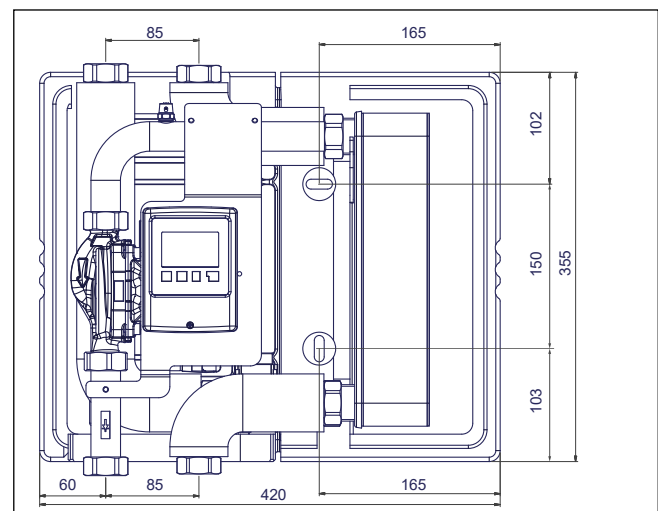

Fig. 8-2: FRIWAC installation diagram
- Observe Fig. 8-2 for steps 2 and 3.